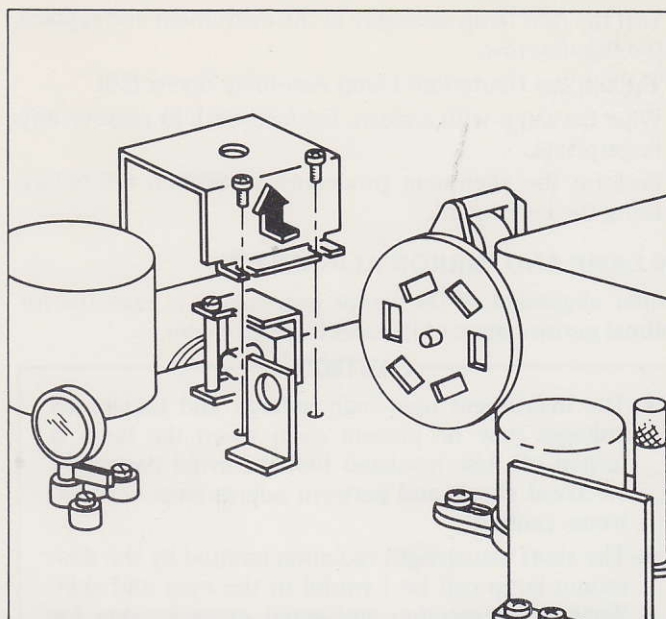

Figure 6-1. Removing the Tungsten-Halogen Lamp Shield.
- c. Remove the Tungsten-Halogen Lamp Shield (29) from the instrument chassis by loosening the two Tungsten-Halogen Lamp Shield Screws (32). The base of the shield is slotted as seen in Figure 6-1, so that you can slide it out from under the two screws and lift it straight up. **BE CAREFUL TO AVOID SCRATCHING THE LAMP INTERCHANGE MIRROR (20).**
- d. Pull the 2-pin Tungsten-Halogen Lamp (31) straight out from the socket.